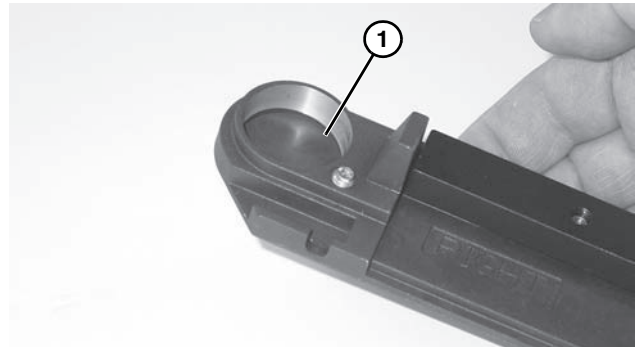

Figure 59
1. Inspect the head plates bearing seating surface (**Figure 59, item 1**). If they are worn or damaged, replace. See "Service Parts" on page 24.